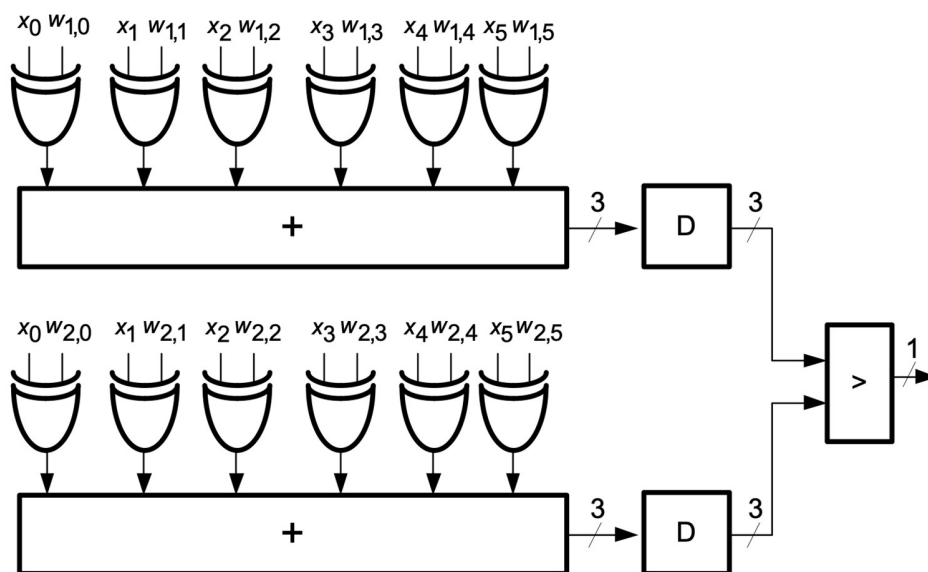

Figure 1. Block diagram of a simple binary classifier.
The goal of this project is to design a simple binary classifier. Figure 1 shows the block diagram of the classifier to be implemented along with the data precisions. Here, the data and weight vectors are binary, and the distance measures being computed is the well-known Hamming Distance (HD).